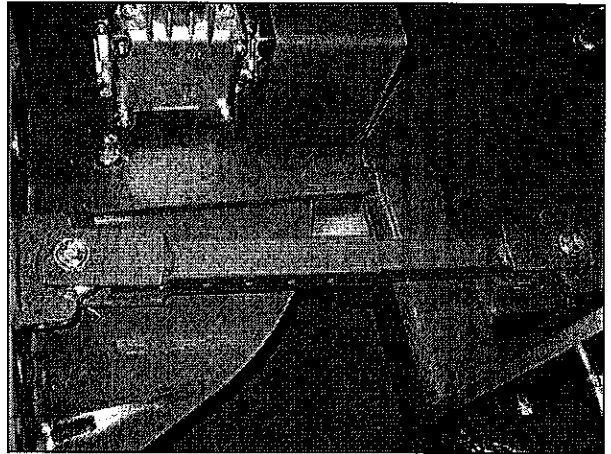

Figure 10
- b. Pin the tubes on the swivel ball mounts. The tube with five holes goes on the half-moon plate. (Figure 10).